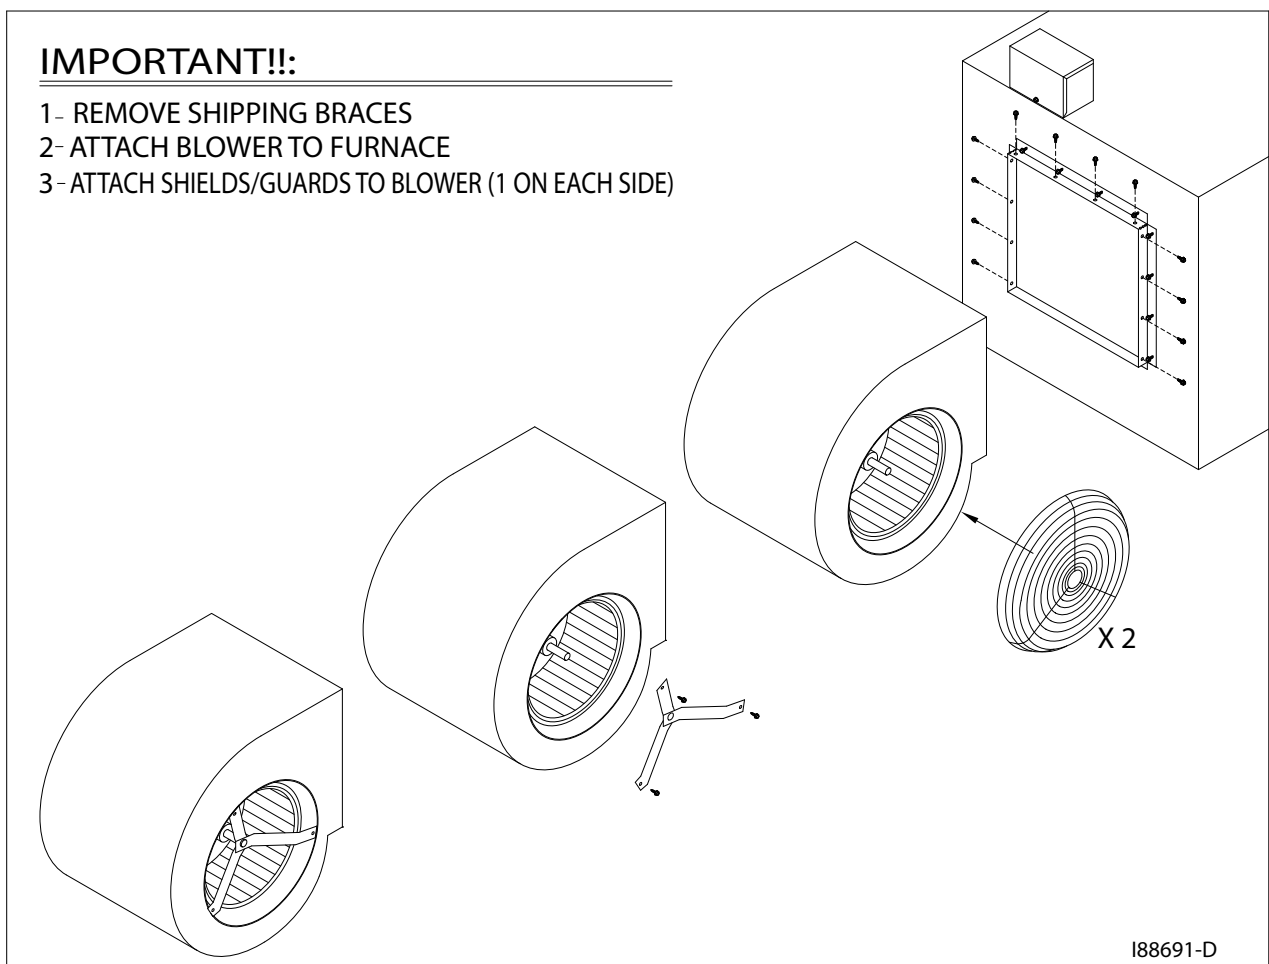

Figure 3B - Installing the Blower Assembly (CB-1750 and CB-2500)
1. Refer to Figures 3B and 3C.
2. Remove the blower stabilizer brackets as shown in Figure 3B. (These braces, which are installed at the factory, are designed to keep the blower in proper position during shipping. Note that these braces are provided on CB-2500 blower assemblies ONLY; CB-1750 blower assemblies do not require these special shipping braces.)